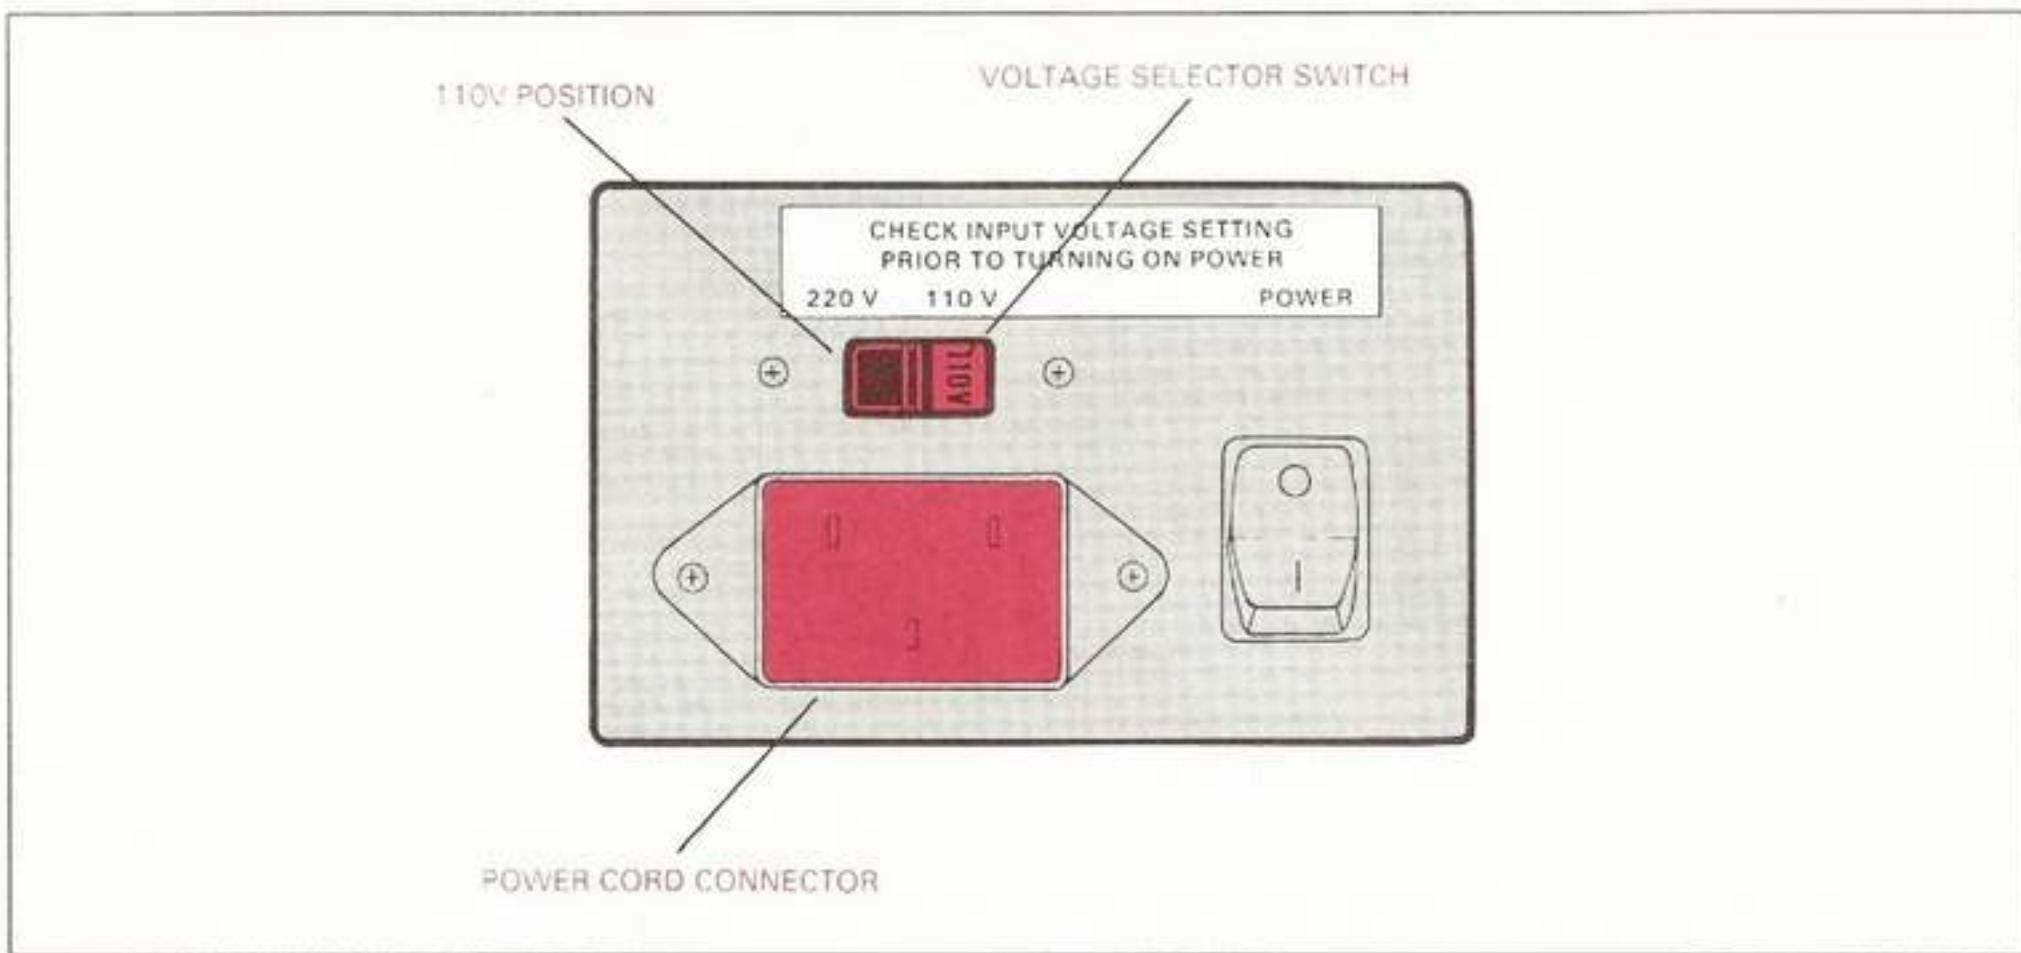

Fig. 7: Voltage Selector Switch and Power Cord Connector
- _____ g. The power-supply input voltage is factory set at 110-V ac. If you are using the Pro-Arm on a 220-V ac power source, change the Voltage Selector Switch on the power supply to the "220 V" setting. (Refer to Fig. 7.)